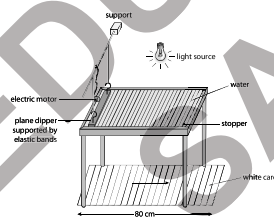

Figure 11.1
- 1 Set up the ripple tank as shown in Figure 11.1 and fill it with water to a depth of about 0.5 cm.